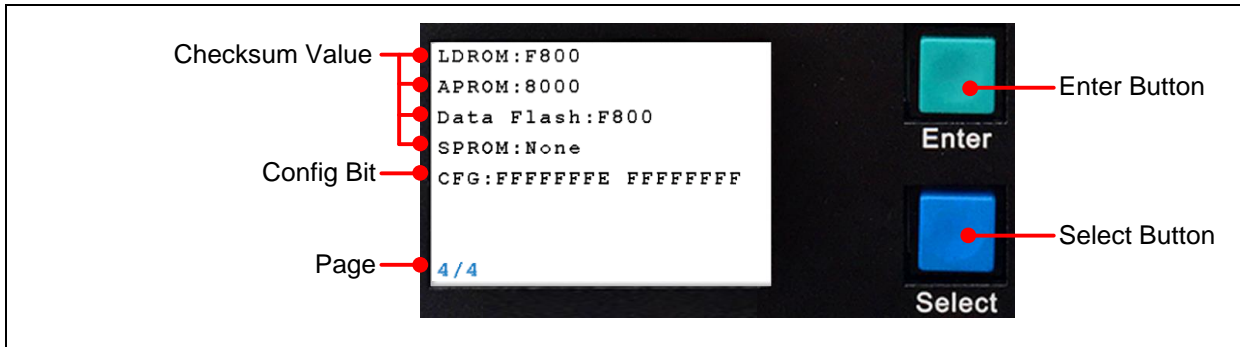

Figure 3-10 Page 4 - Programming Unit Information
- Page 4: Shows programming unit Information as Figure 3-10. List the checksum data of every programming area, and config bits. The checksum data and config bits are the same as the data in ICP Programming Tool. Press Enter button to go to page 1.